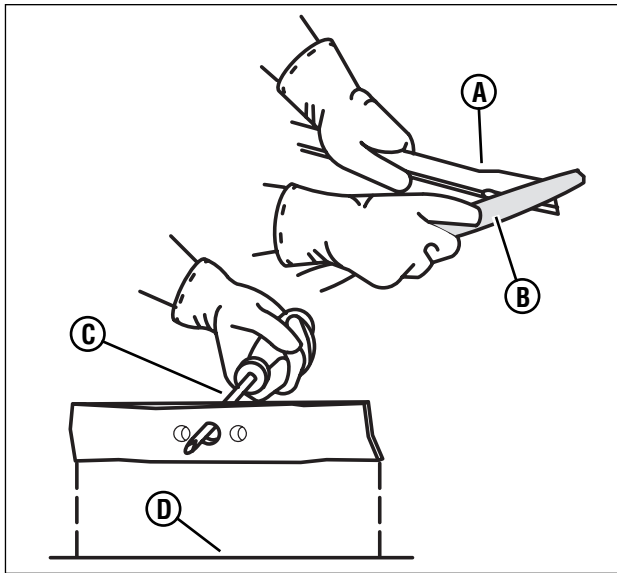

Figure 23: Sharpening the blade
4. Sharpen the blade (**A, Figure 23, next page**) with a file (**B**). Make sure you keep the original beveled cutting edge.